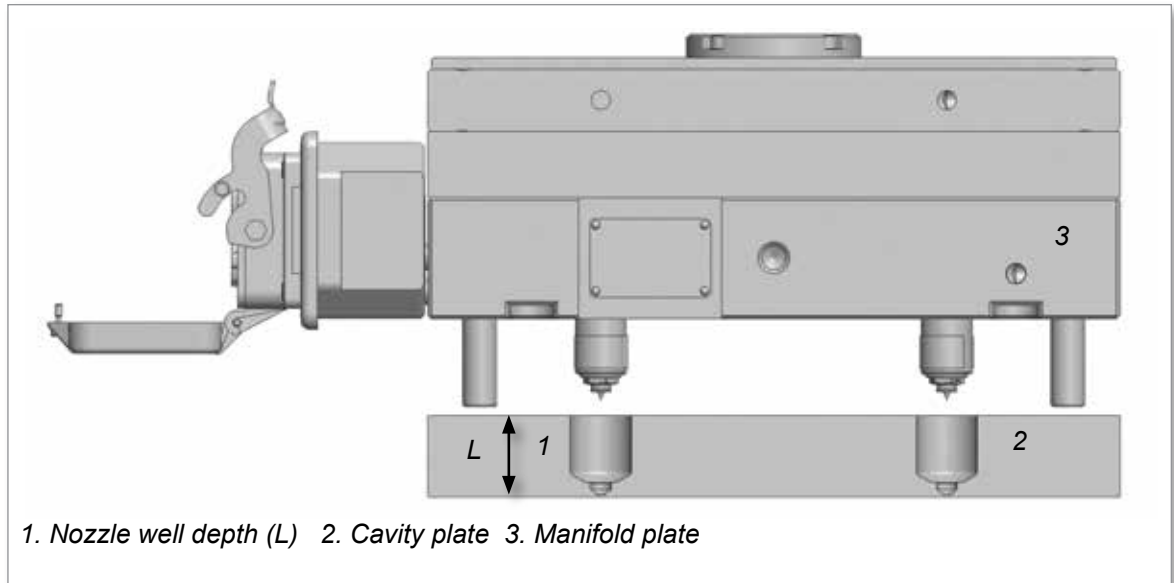

Figure 6-1 Nozzle depth
Check that the nozzle well depth (L) in the cavity plate is to *Mold-Masters* specifications. See Figure 6-1.
1. Check that the nozzle well depth (L) in the cavity plate is to *Mold-Masters* specifications. See Figure 6-1.